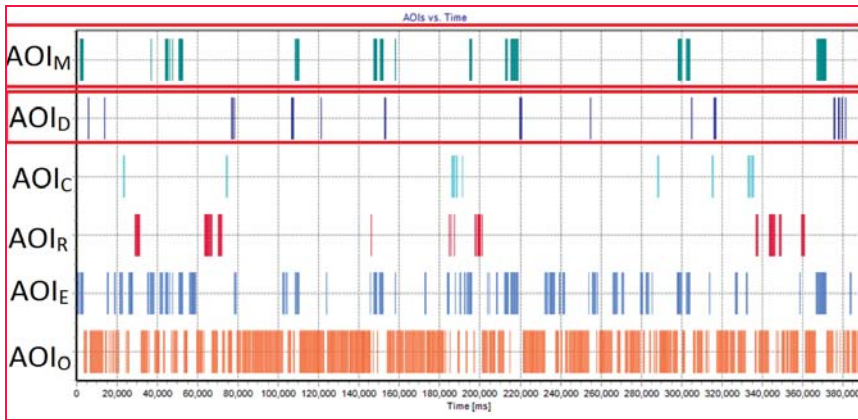

Figure 5: Sequence chart participant 1, AOI_M and AOI_D highlighted
The primary task for the navigator is to conduct a safe passage. Monitoring the surroundings and controlling the INS is an important task, and every navigators' attention should be focused mainly to the outside of the ship (3). Sequence charts illustrates the visual fixation periods within an AOI along the timeline (13). Figure 5 shows the distribution of visual attention of the navigator for each of the AOIs. By highlighting the
The sequence chart in Figure 5 illustrates how the navigator's attention is drawn from looking outside (AOI_O) to focus on ECDIS (AOI_E), and especially on the Route Monitor window (AOI_M) in the lower right corner of the ECDIS GUI. Comparisons of the participants' scanpath and sequence chart suggests that the operation of extracting information from the Route Monitor window is time consuming, and therefore reduces time spent looking outside (AOI_O). Some reasons for this may be the size of the numbers and